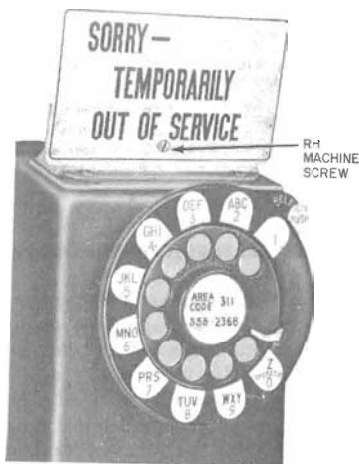

Fig. 20—KS-7991 Sign in Place Over Coin Gauge
4.21 If a coin station is not ready for service when installation work is completed, place KS-7991 sign (Fig. 20 and 21) or E-4914 Form (Fig. 22) on coin gauge so that customers will not deposit coins.
4.23 The KS-7991 sign must be ordered separately and is mounted by means of a No. 8-32 by 3/4 inch RH machine screw and a self retained speed nut, Tinnerman C-6724-832-373 (Fig. 20 and 21).